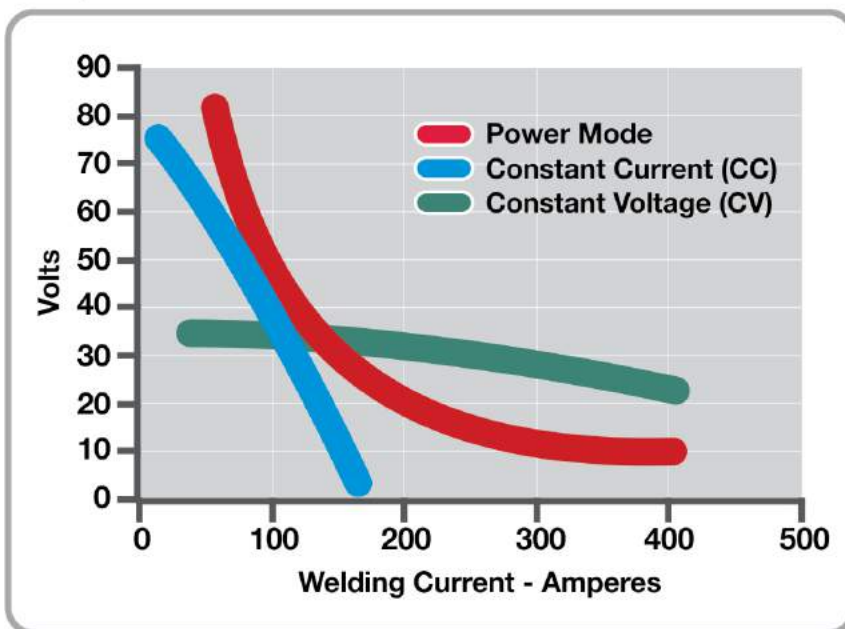

Figure 5-2: Output Characteristics of CC, CV and Power Mode
Power Mode, a Lincoln Electric patented process, is a combination of constant current (CC) and constant voltage (CV) modes. In Power Mode, neither the current nor the voltage is held steady. Instead, the weld power is held constant. Figure 5-2 shows a comparison of the voltage-amperage curves for CV, CC, and Power Mode. In Power Mode, the wire feed speed and the power levels (in KW) are preset. The power is adjusted to obtain the appropriate arc length for the preset WFS.